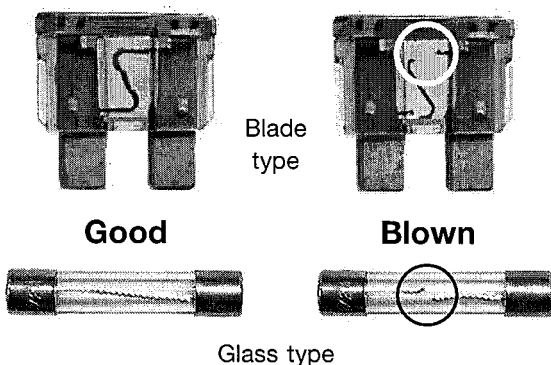

Figure 3.13
- 4 Remove the suspected fuse with fuse puller, available at most automotive parts supply stores. If the fuse looks like the “blown” image in **Figure 3.13**, page 3.22, replace it with a new fuse of the same rating. If it still looks good, replace the original fuse in its slot and contact a service center to inspect the coach's electrical system.